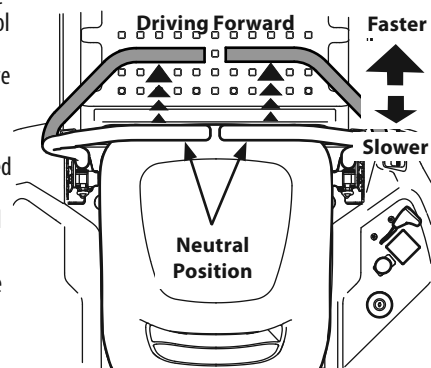

Figure 21
1. Slowly and evenly move both lapbar drive control levers forward. The tractor will start to move forward. See Figure 21.